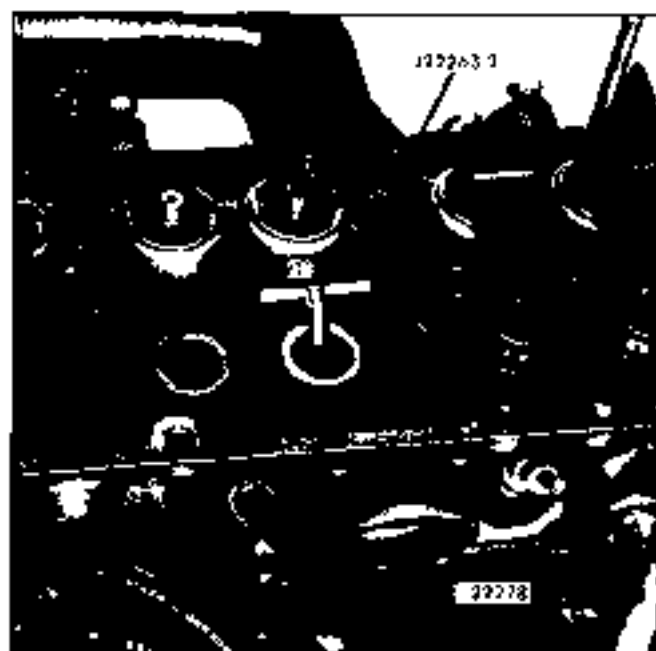

Fig. 6-23 Valve Spring Removal Hook-Up
- Remove spark plug from cylinder of valves to be serviced and install J 22278 (Fig. 6-23).
- Install hook end of tool J 22263-2 into oil feed hole in lash adjuster bore (Fig. 6-23).